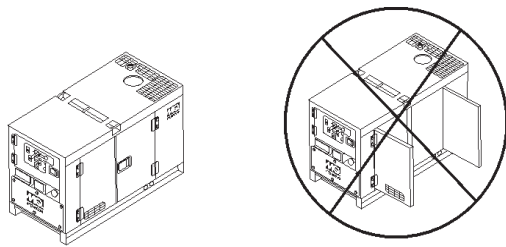

Figure 20. Engine Enclosure Doors
- Close all engine enclosure doors (Figure 20).